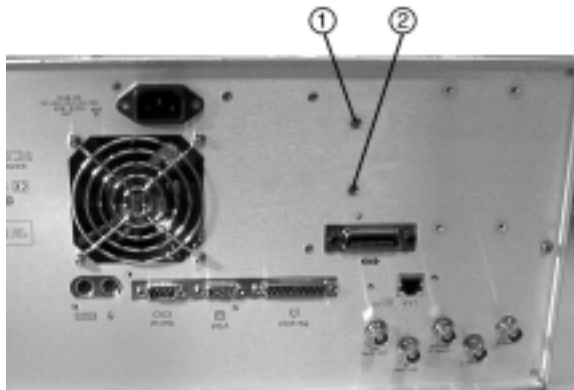

Figure 3-66. Removing the screws fastening the optical assembly to the rear panel
- 8 Use the T-10 TORX driver to remove the two screws fastening the optical assembly to the rear panel. See ① and ② in Figure 3-66 below.